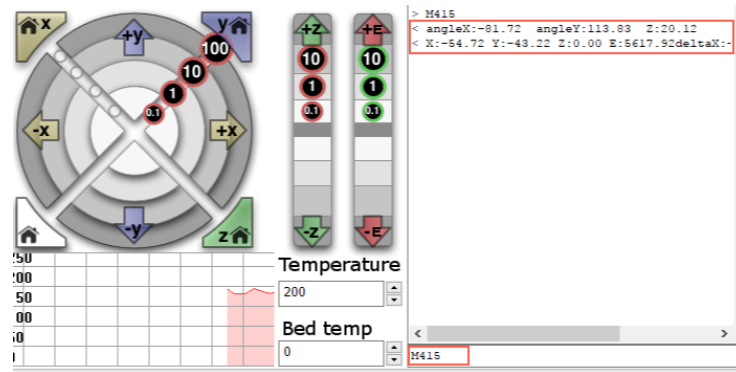

Figure 5.152 Input command M415
2. Input command **M415** on the lower right of the **Operational** page to get the current coordinates, as shown in Figure 5.152.